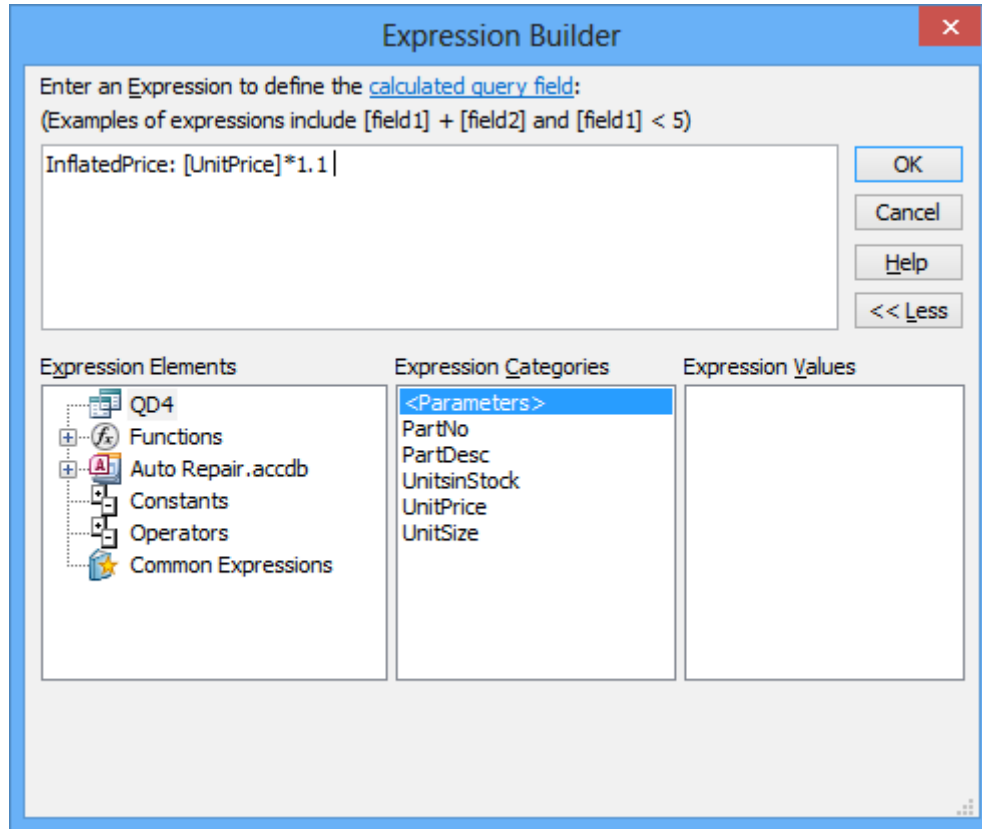

Figure 20: Expression Builder for “QD4”
9. Type into the Text Area: Type the expression as shown in the text area in Figure 20: